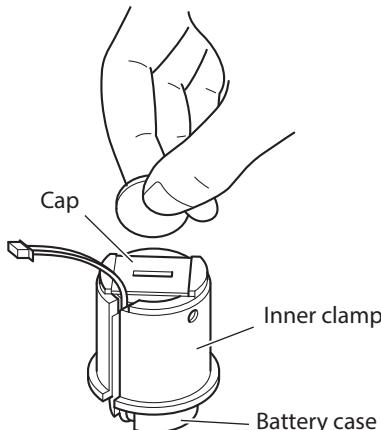

Fig. 23 Removing the Battery Cap
- 4** Turn the cap on the battery case using a coin, and remove the battery. (Figs. 23 and 24).